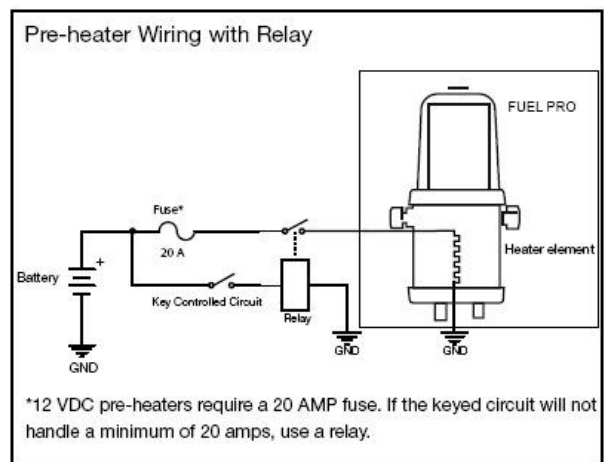

Figure 6
- For 12 VDC or 24 VDC with a relay, refer to Figure 6.